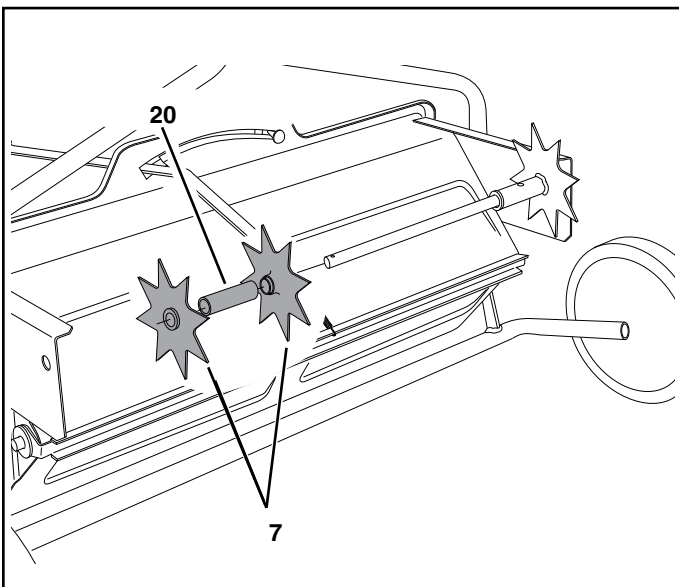

FIGURE 16
- Place two spike disks (7), separated by a long spacer tube (20), onto the shaft. Fit the long spacer tube onto the ends of the flanged bearings in the disks. See figure 16.